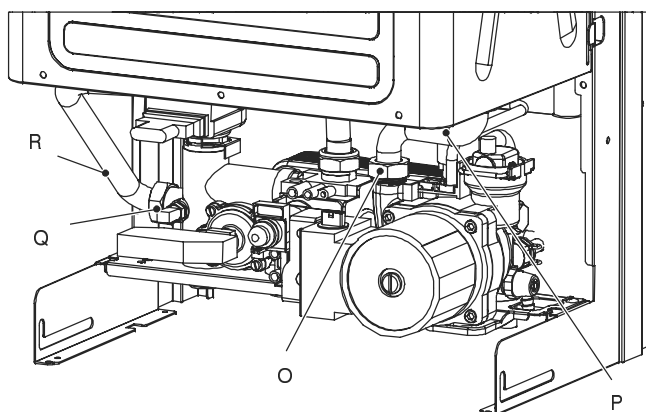

Fig. 5.5
- 11 Completely loosen the connection *O* and slightly move the pipe *P* upwards, then turn it towards right (Fig. 5.5)
- 12 Completely loosen the connection *Q* and move the pipe *R* downwards (Fig. 5.5).